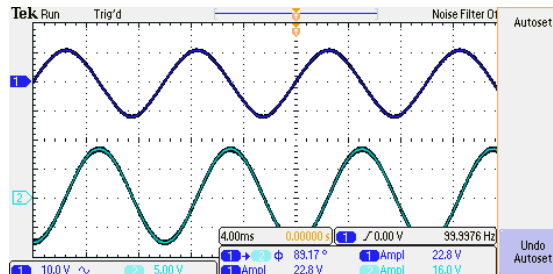

Figure 8: 8 V amplitude and 100 Hz Frequency on Figure 1 circuit
- Next we set to increase the amplitude of Voltage source to 8 Volts and we observed the following in Figure 8, a voltage change; where the output voltage increased 8 times as if it were to be 1 voltage .